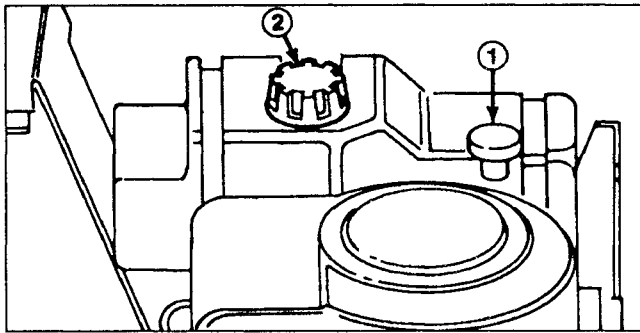

Figure 6
2. Unscrew and remove the dipstick from the oil fill tube (Fig. 6).
1. Clean area around fuel tank cap so foreign matter cannot enter tank when cap is removed (Fig. 6).